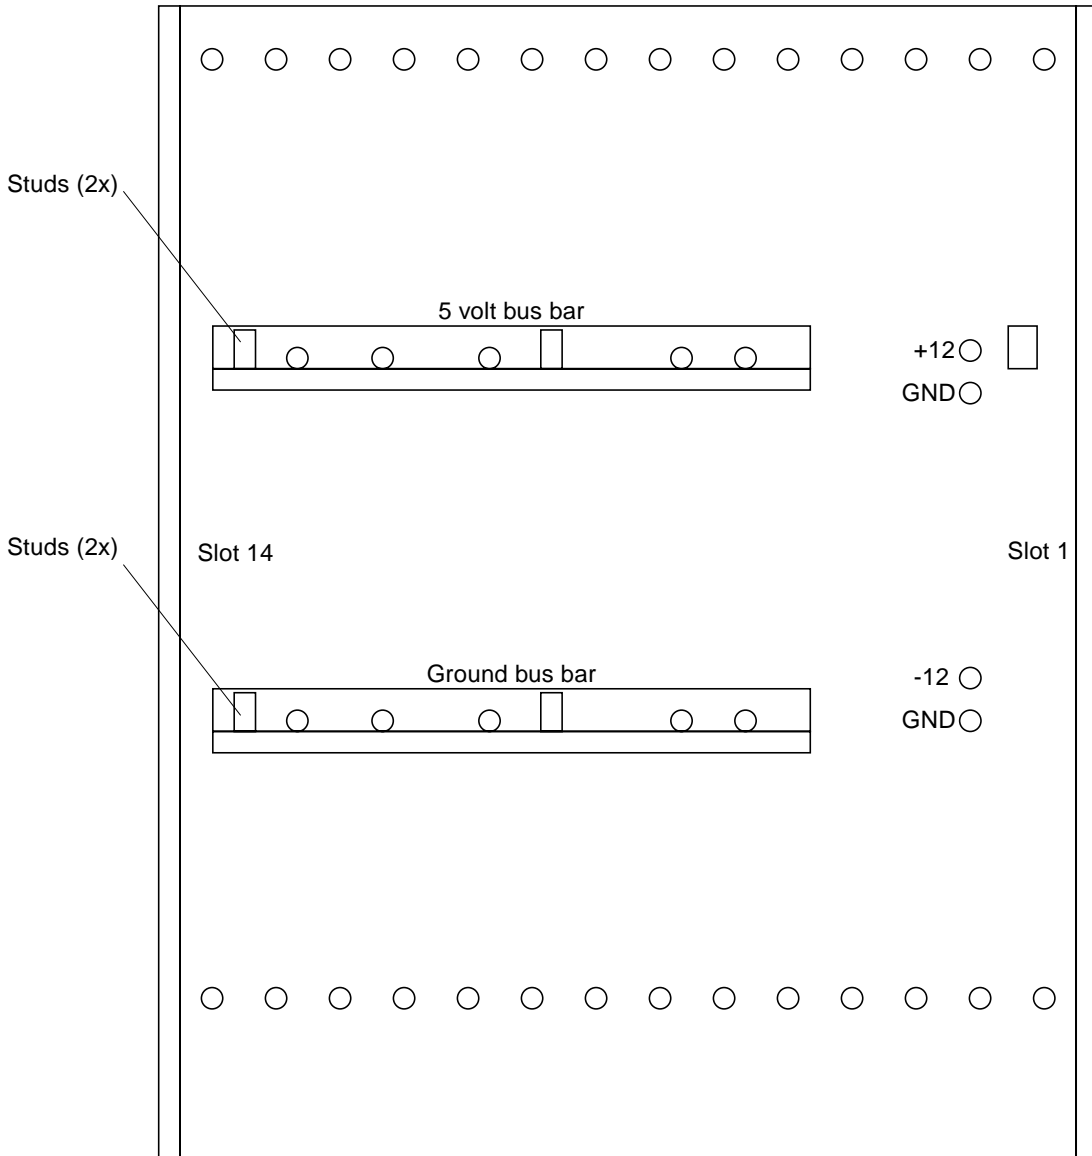
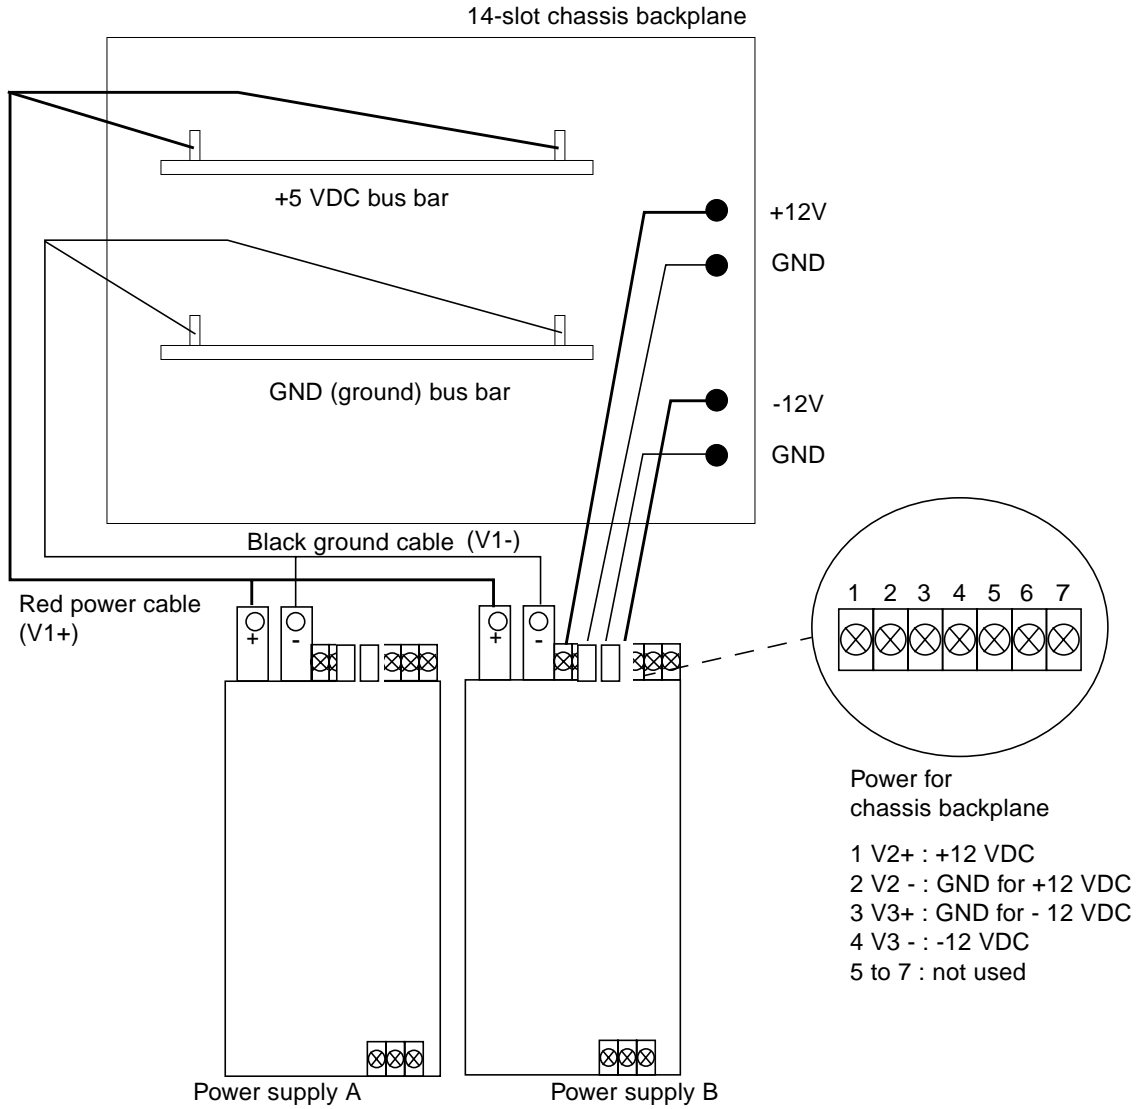

FIGURE 6-32 Chassis Backplane Power Connections
FIGURE 6-33 Chassis Backplane Power Connection Diagram
2. **Remove the nuts from the red +5 VDC cable lugs and black GND cable lugs at the +5 VDC and GND bus bar terminals shown in FIGURE 6-32 and FIGURE 6-33. Move the cables out of the way.**
3. **Remove the nuts from the +12 VDC, -12 VDC, and two GND terminals shown in FIGURE 6-32 and FIGURE 6-33. Move the cables out of the way.**
6. Replace the +12 VDC, -12 VDC, and two GND cables on the terminals shown in FIGURE 6-32 and FIGURE 6-33. Replace the nuts on the terminals.
7. Replace the +5 VDC and GND cables on the terminals shown in FIGURE 6-32 and FIGURE 6-33. Replace the nuts on the terminals.